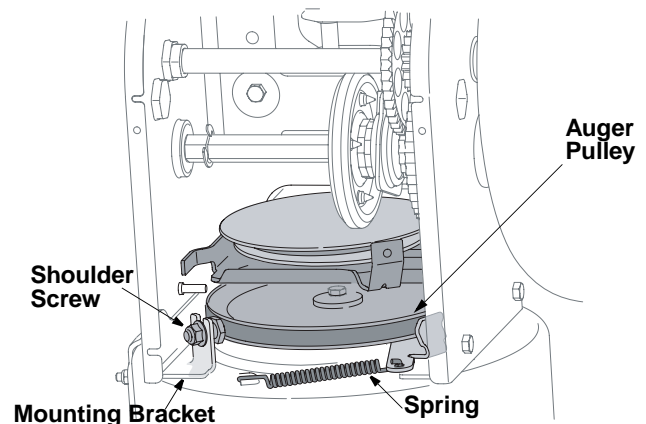

Figure 25
- Half turn shoulder screw and slide it out of the mounting bracket. See Figure 25.
- Unhook spring to release tension on the auger belt. Remove old belt and replace with new belt installing it on the groove. See Figure 25.
- Wrap auger belt around the auger pulley. See Figure 25.